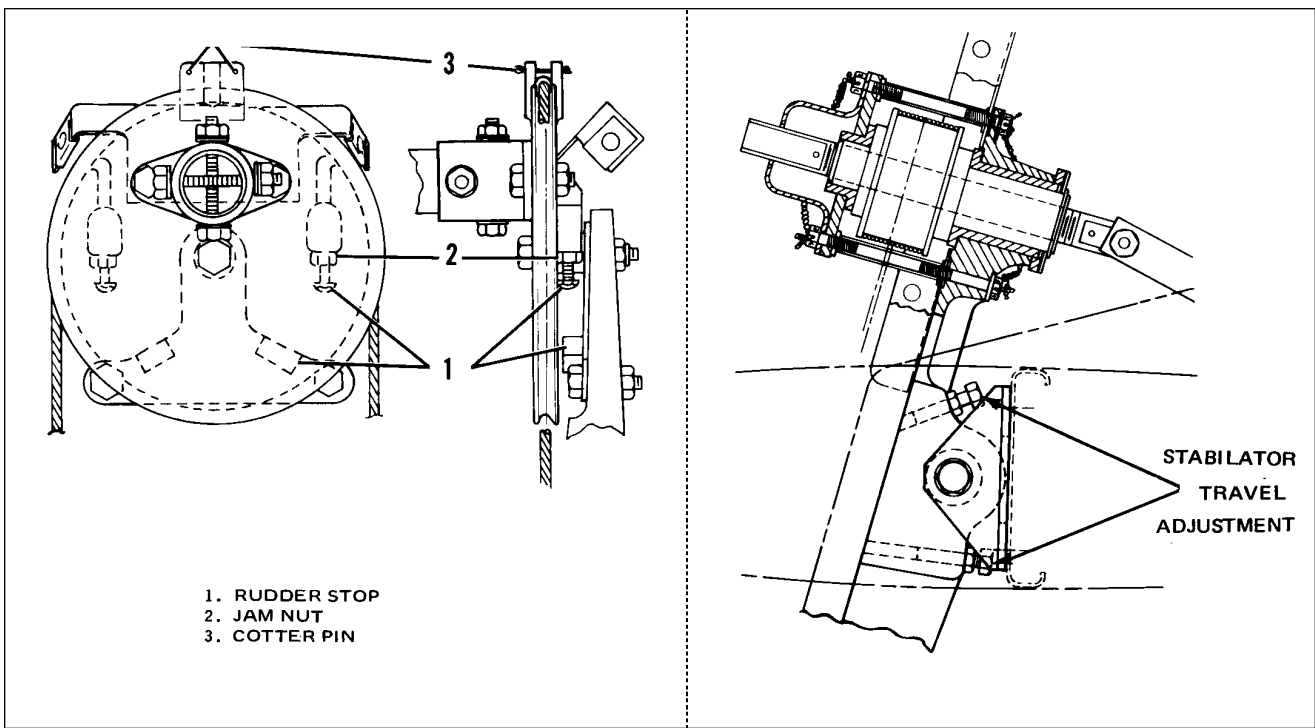

Figure 27-12. Rudder and Stabilator Travel Adjustments
- D. Should the rudder travel be incorrect showing a gap between the tool and any part of the control surfaces, the rudder fairing should be removed and the stops reset to obtain correct rudder travel. (Refer to Figure 27-12.)
- D. Should the stabilator travel be incorrect in either the up or down position, remove the fin/ rudder fairing by removing the attaching screws and with the use of the rigging tool and bubble protractor turn the stops located at each stabilator hinge in or out (refer to Figure 27-12) to obtain the correct degree of travel.